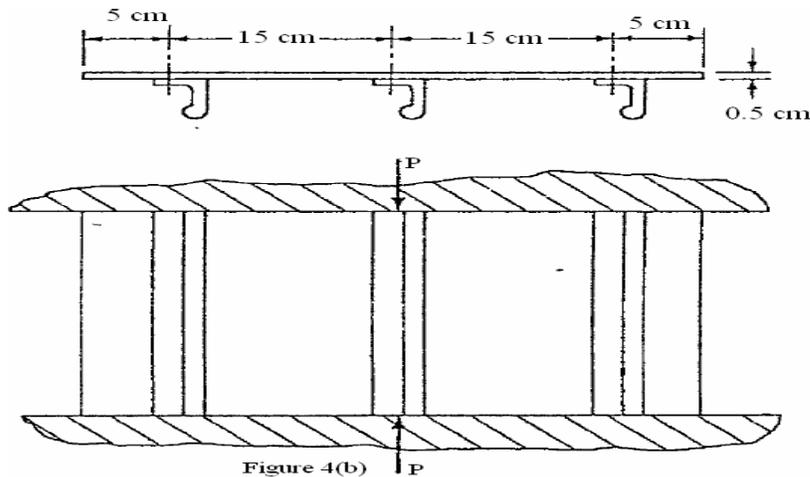

Figure 4(b)
- (b). Obtain the compressive load taken by the sheet with stiffeners – stringer combination panel for the following conditions shown in figure 4 (b),